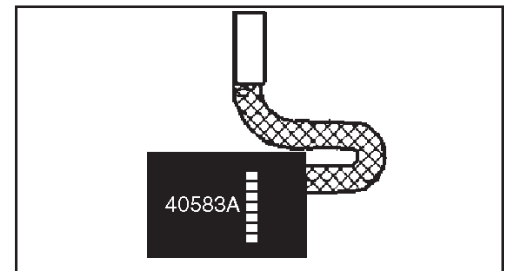

Figure 12
2. Inspect the carbon brushes. Replace both brushes if either brush has worn to 3/8" in length, or is worn to the wear indicator. See figure 12.